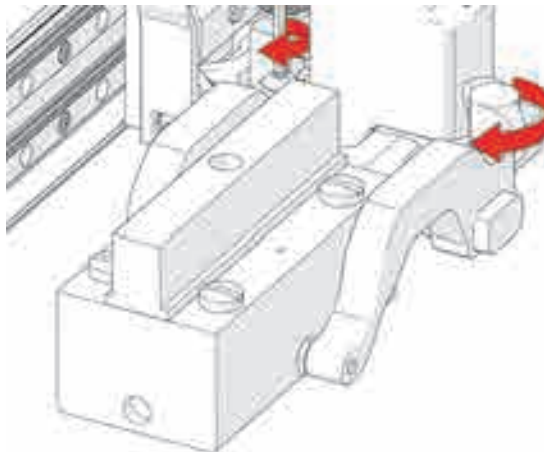

Figure 4-83 Pivot buttons
6. Tighten both the probe holder adjustment knob and the arm clamp screw, while ensuring the wedge remains centered with the yoke (see Figure 4-83 on page 154).